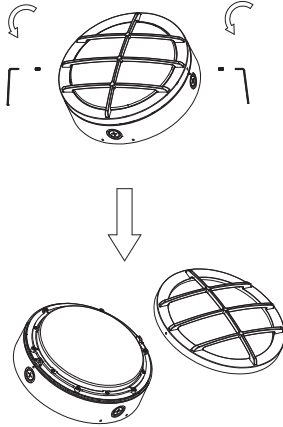

Fig.10
1. Remove the two set screws(M5) on the left and right, then take off the top cover. (Fig.10)